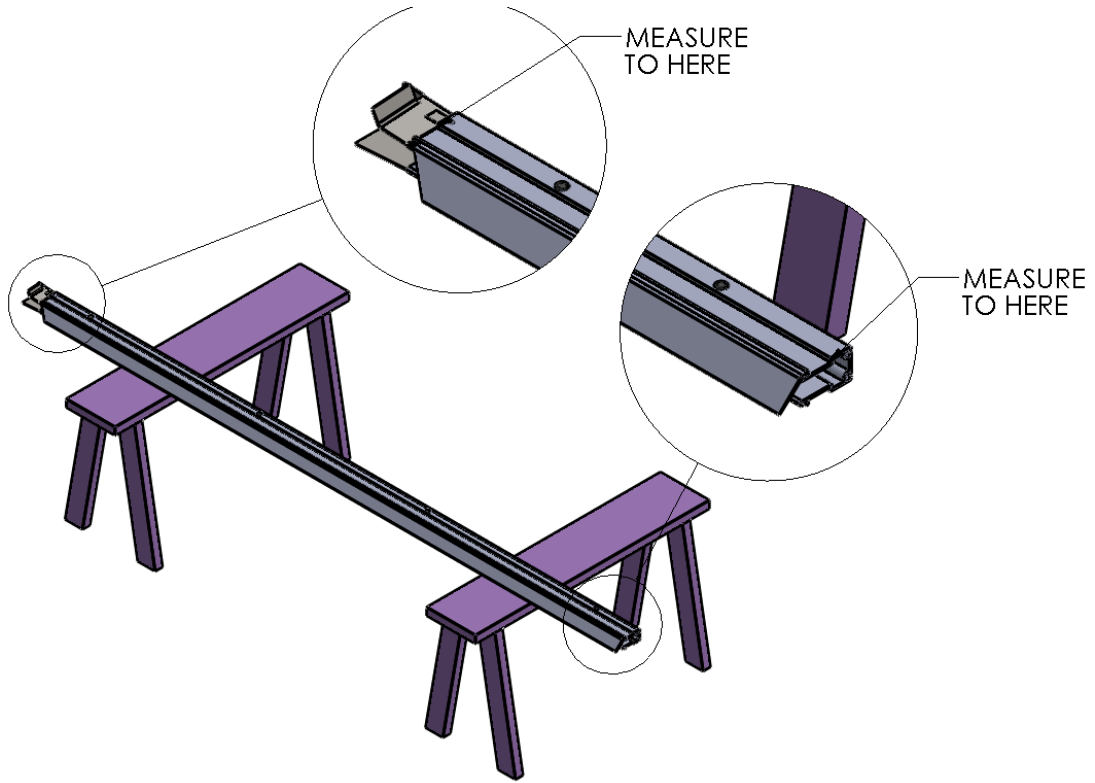
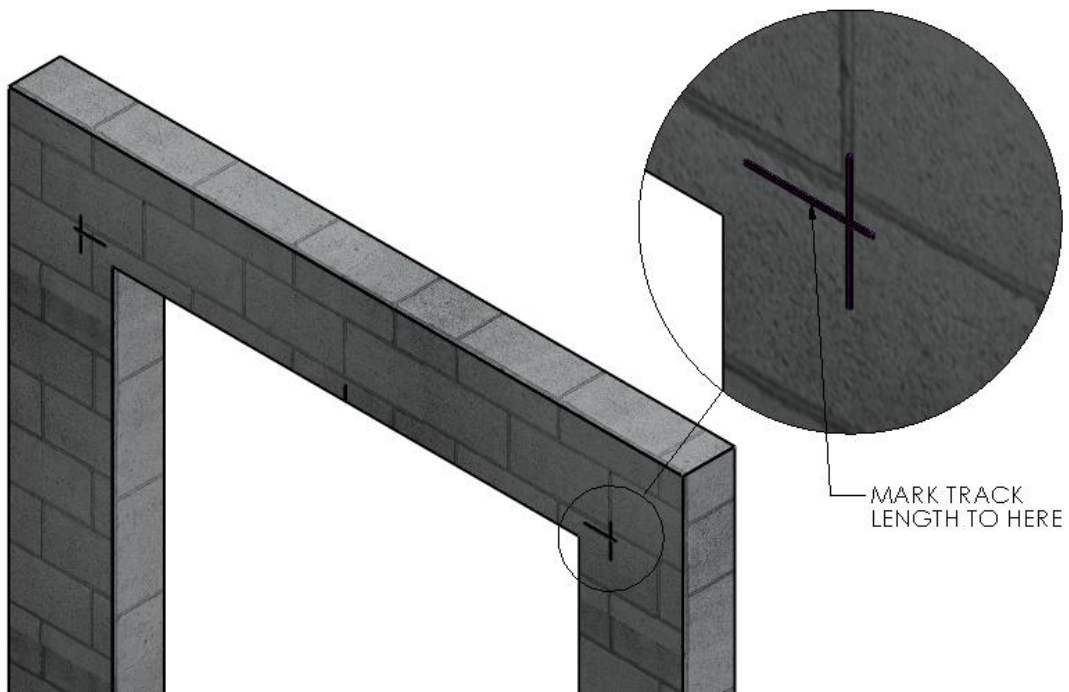

Figure 4 MEASURE TRACK HEIGHT
Figure 5 MARK TRACK HEIGHT
5. Set one of the Vertical Track Assemblies on your work surface and measure the length of the vinyl Track only. ADD 3-1/4" to this number and take note. This is the height dimension needed to mark the location of the bottom edge of the Header Mounting Brackets. With this number, add a horizontal line on each side of the opening that intersects the previously drawn vertical line marking the overall width of the roll assembly. (Figure 4 MEASURE TRACK HEIGHT) (Figure 5 MARK TRACK HEIGHT)